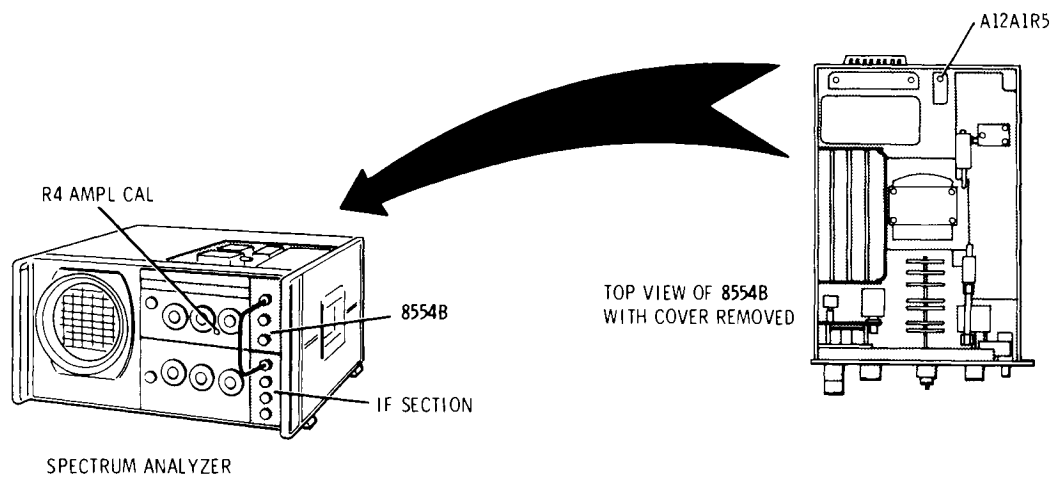

Figure 5-17. AMPL CAL and 50 MHz Gain Check and Adjustment Test Setup
- 2. With the test setup connected as shown in Figure 5-17, make the following control settings: